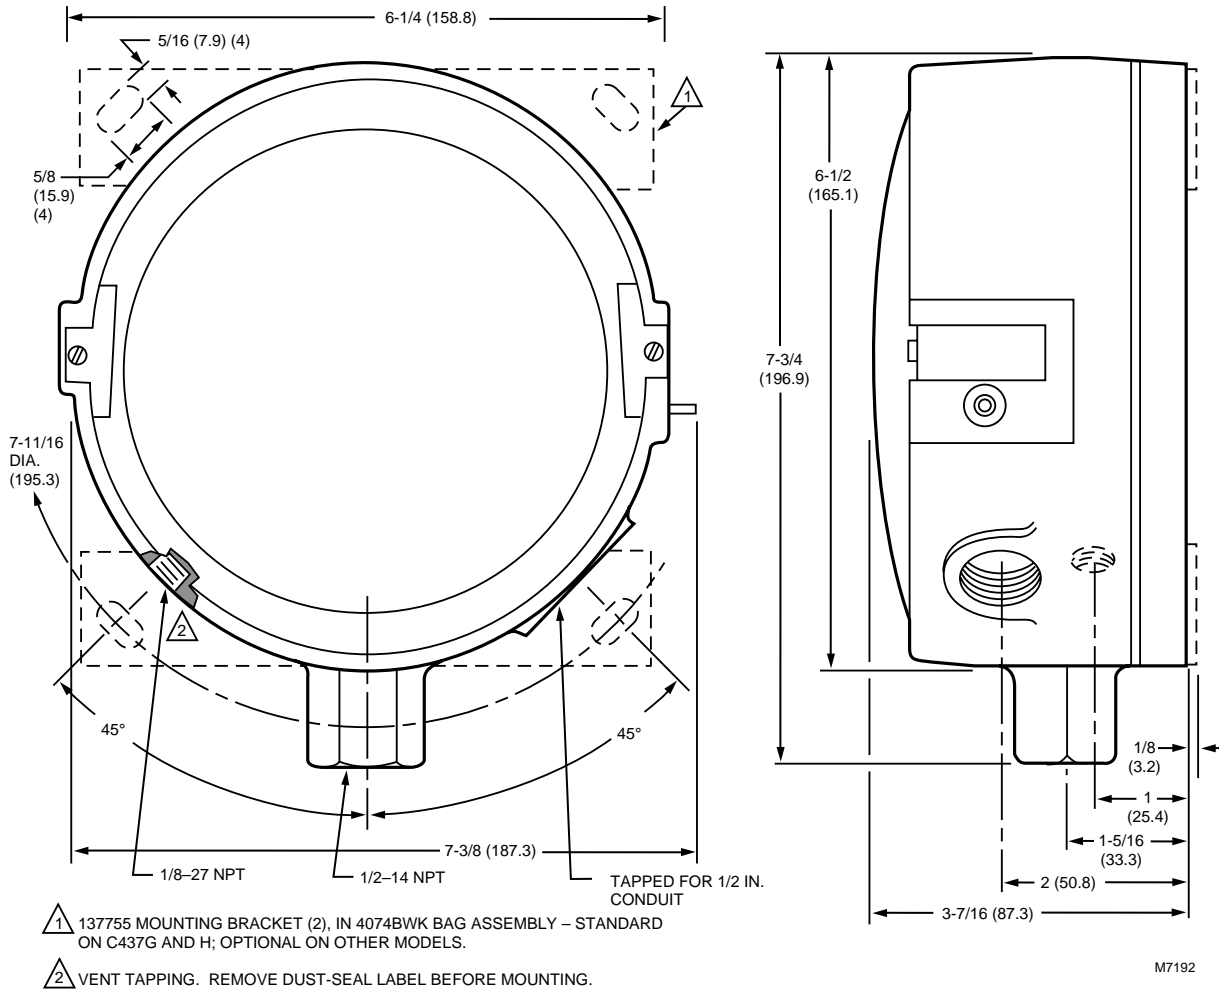
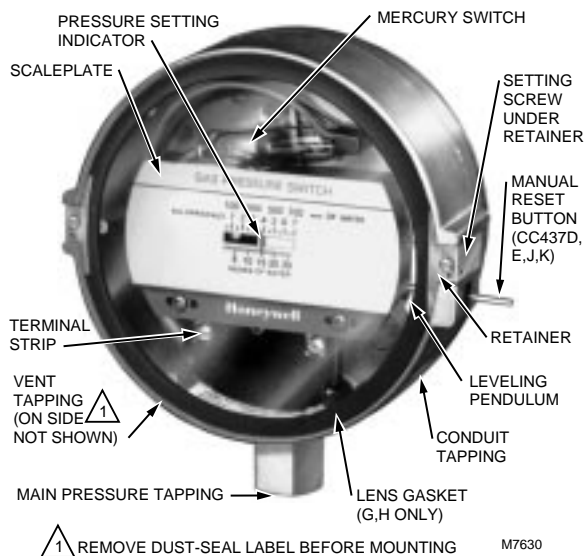

Fig. 1. Installation dimensions of the C437 and C637 gas pressure switches, in in. (mm).
Fig. 2. Principal parts of the gas pressure switch.
- 4074BWK Bag Assembly: Contains two 137755 Mounting Brackets and four self-tapping screws: for surface mounting (standard on C437G and H). Mounting brackets are shown by dashed lines in Fig. 1.
Fig. 1 shows the mounting dimensions for the C437 and C637 models, and for the accessory mounting bracket (standard on C437G and H). See Fig. 2 for the individual components.
Remove the retainer and adjust the *setpoint* for the desired operating pressure (cutout pressure on a C437D,E,G, or H spst model) by turning the setting screw (Fig. 2) clockwise ↻ to increase the setpoint and counterclockwise ↻ to decrease it.
To reset one of these pressure switches, wait until the pressure *falls* to the setpoint minus the differential (C437D or J), or *rises* to the setpoint plus the differential (C437E or K). Then depress the manual reset button (Fig. 2) and release it. *The pressure switch will not be reset until you release the manual reset button.* This prevents the switch from becoming an automatic-reset device if the reset button is stuck, held in, or tied down.
- 2 Turn the setting screw (Fig. 2) slowly toward a lower pressure setting (counterclockwise ↺) to simulate a pressure increase.
- 6 Push the manual reset button (Fig. 2) on the C437D or J; the C437D should make, and the C437J should break R to W and make R to B.
- 5 Push the manual reset button (Fig. 2) on the C437E or K; the C437E should make, and the C437K should break R to B and make R to W.